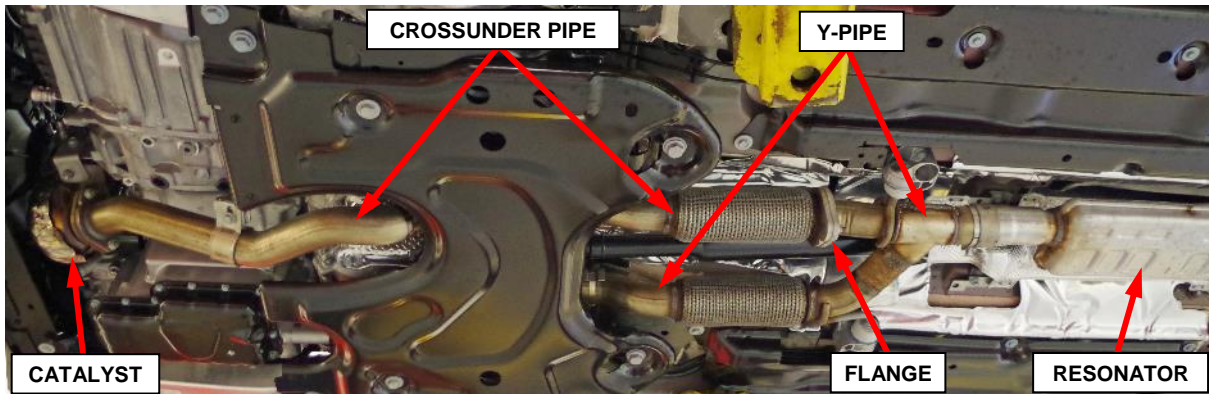

Figure 56 – Exhaust Crossunder Pipe and Y-Pipe
42. **3.2L Engine:** Remove the exhaust crossunder pipe and Y-pipe following steps (a-m) (Figure 56).
- d. Remove the crossunder pipe from the vehicle (Figure 56).